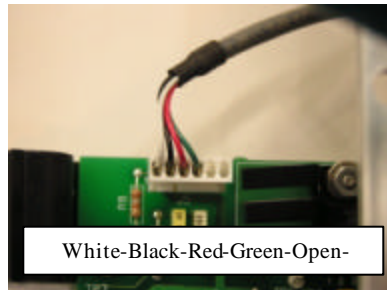

fig 11
10. Plug the optical sensor connector into the header marked J5 as indicated in fig 11.